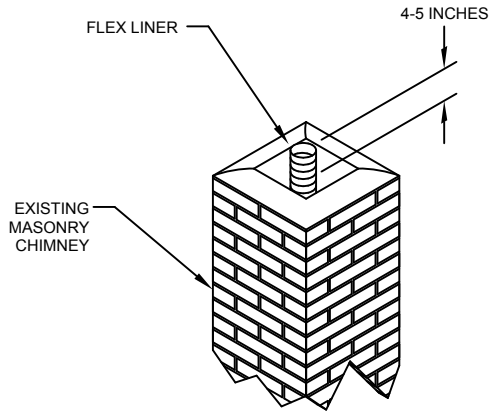

Figure 13
Step 1. When terminating your Flex installation, ensure the Flex protrudes 4-5 inches over the top of the masonry chimney, as shown in **Figure 13**. Trim the base of the Top Plate to fit on the masonry chimney as needed.